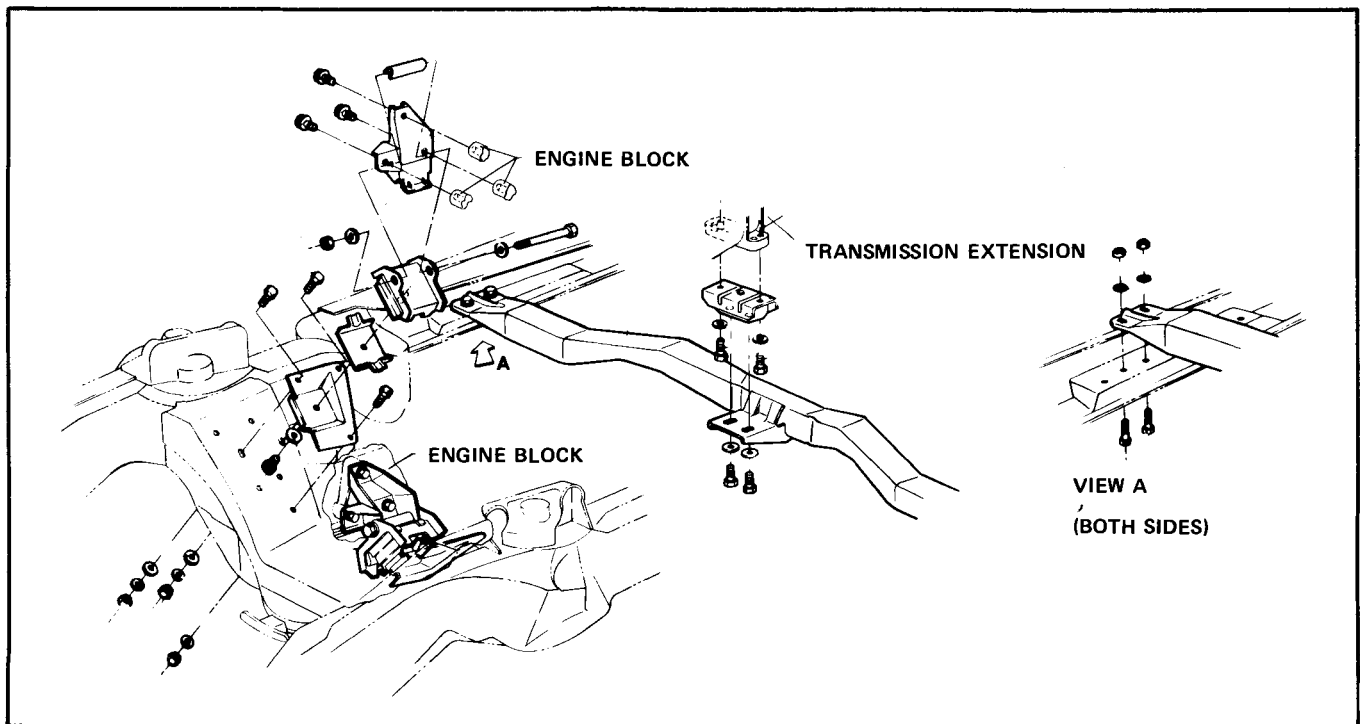

Fig. 6-16 Engine Insulators - 6 Cyl. A Series
3. Remove insulator to transmission extension bolts (Figs. 6-16, 6-17 and 6-18).